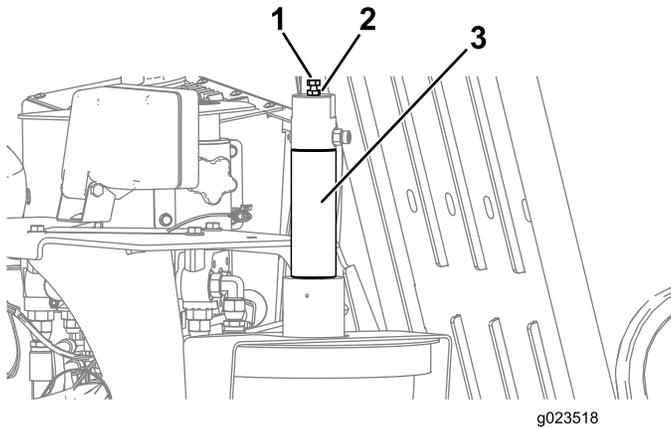

Figure 56
1. Loosen the jam nut on the adjustment bolt located on top of the TJC-applicator piston (Figure 56).